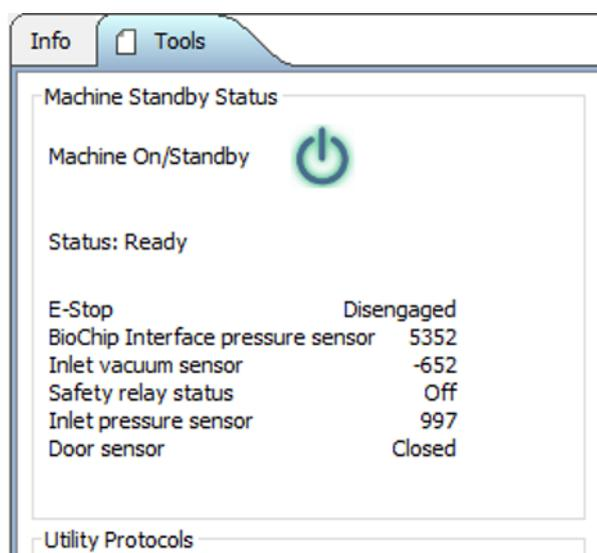

Figure 15 Part of the screen visible under the 'Tools' tab in ViewPoint
In the sections below, the terms 'utility protocol' or 'utility button' will be used interchangeably and they refer to the green play-buttons found on the lower part of the 'Tools' tab in ViewPoint (Figure 15).
5. Wake Qube from standby by clicking on the 'Machine standby/on' icon in the 'Tools' tab (Figure 15)